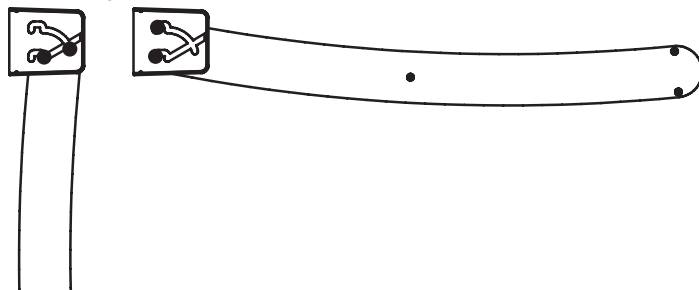

Figure 5
- ⑥ Once you have verified all units are level, lower the shelf and remove protective film from reflective surface. Take care to avoid leaving fingerprints. To lower the FlexWave for cleaning, carefully grasp the light shelf with both hands, lift up slightly, and rotate so that the the mounting studs slide into place as seen in Fig. 5. Do not allow the light shelf to bang into the wall. Ensure that the wall beneath the FlexWave is free of obstructions that could damage the unit when lowered for cleaning. Do not place undue pressure on the FlexWave. This could place too much weight on the mounting brackets and could damage the light shelf, brackets, or mounting surface.